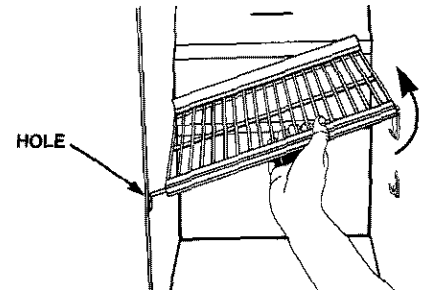

FIGURE 90
2. Pull shelf sideways and up until shelf rods come out of holes in the left wall. See Figure 90.